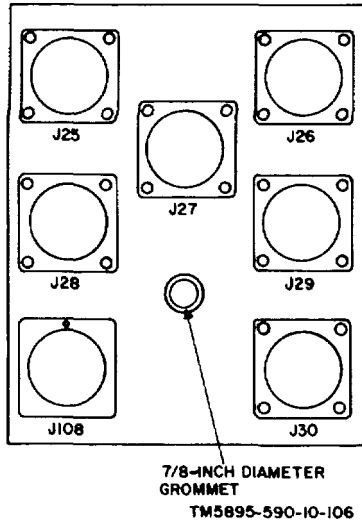

Figure 2-7. Control tower bulkhead connector panel AN/FSQ-75(V) 3 only.
(3) Equipment shelter bulkhead connector panels are shown in figures 2-5 and 2-6 for the AN/FSQ-75(V)1 and the AN/FSQ-75(V)2, respectively. Their location is indicated in figure 1-25. Figure 2-7 shows the AN/FSQ-75(V)3 control tower bulkhead connector panel; its location is indicated in figure 120. The 7/8-inch grommet located on the control tower cab bulkhead connector panel is provided for routing telephone wires to the common equipment box, and the speaker wire from the alarm/pa system. Jack J108 mates with P3 of cable F (fig. 2-2) and connects to the engine generator remote control panel in the control tower cab (fig. 1-4). The remaining jacks on the control tower bulkhead connector panel mate with cables interconnecting the tower bulkhead connector panel and the shelter bulkhead connector panel (fig. 2-2). Interconnect the control tower bulkhead connector panel and the equipment shelter bulkhead connector panel as follows (fig. 2-1 and 2-2):